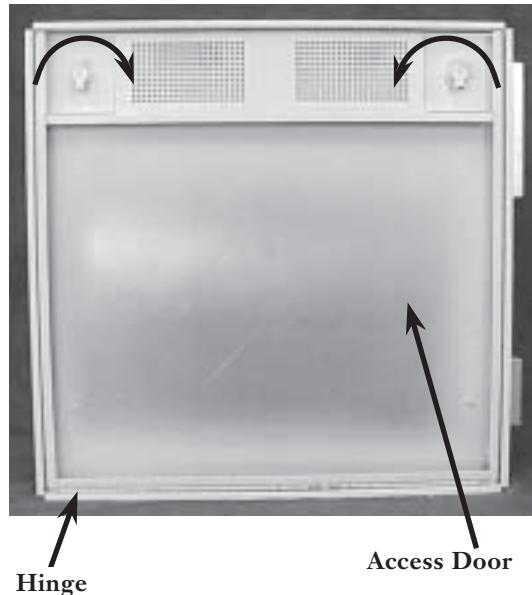

Figure 2
- Step 2** Open the access door by turning the retaining knobs as shown in Figure 2.